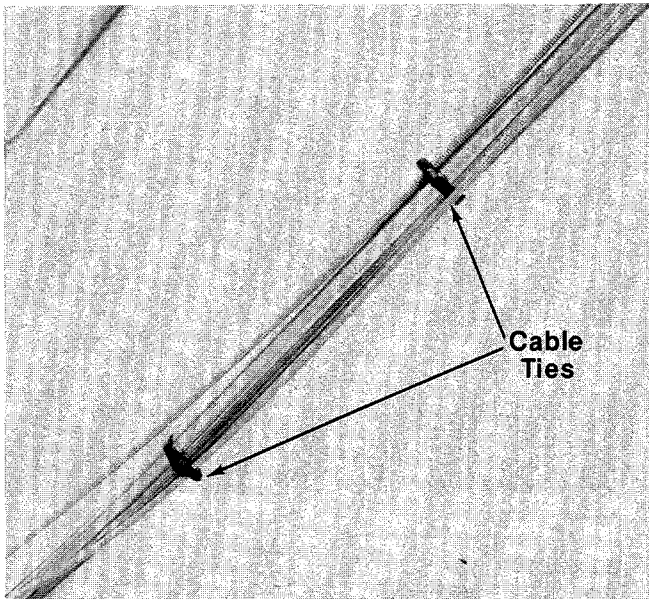

FIGURE 4.
6. Use the cable ties to fasten the throttle control cable and clutch cable to the handle. See figure 4.